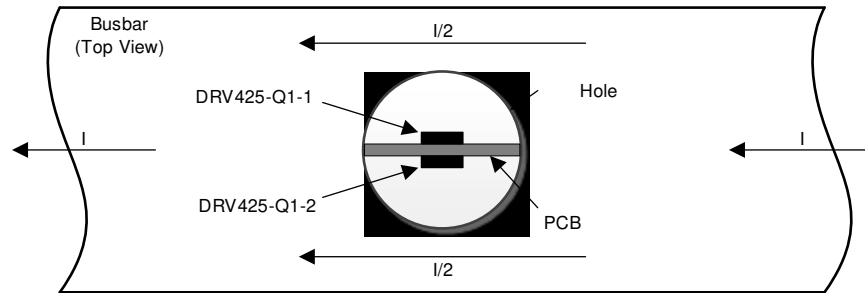
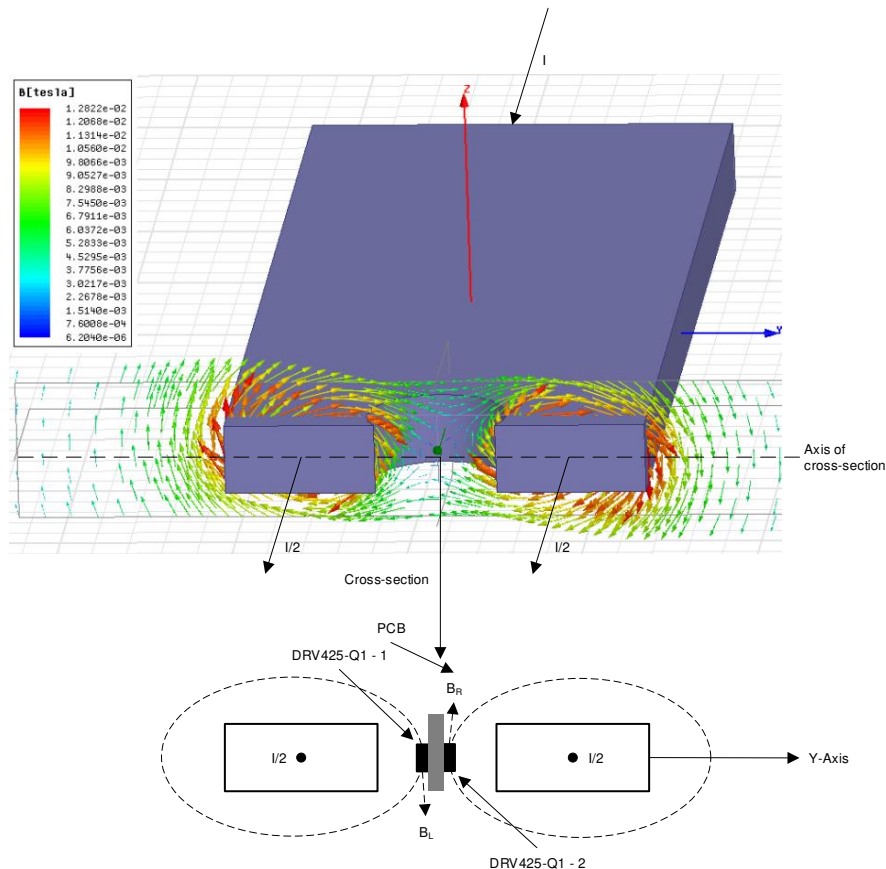

图 71. Current Sensing in Busbars
图 72. Magnetic Field Distribution Inside a Busbar Hole
图 71 shows an alternative approach with two DRV425-Q1 devices. If a hole is drilled in the middle of the busbar, the current is split in two equal parts that generate magnetic field gradients with opposite directions inside the hole. These magnetic fields are termed B_R and B_L in 图 72. The opposite fields cancel each other out in the middle of the hole. The high sensitivity and linearity of two DRV425-Q1 devices positioned at the same distance from the middle of the hole allow the small opposite fields to be sensed and the current measured with high-accuracy levels. The differential measurement rejects outside fields that generate a common-mode error that is subtracted at the output.
2. Apply current through the busbar and move the PCB along the y-axis in the busbar hole, as shown in 图 72. The PCB is in the center of the hole if $V_{CM} = V_{OFFSET}$.